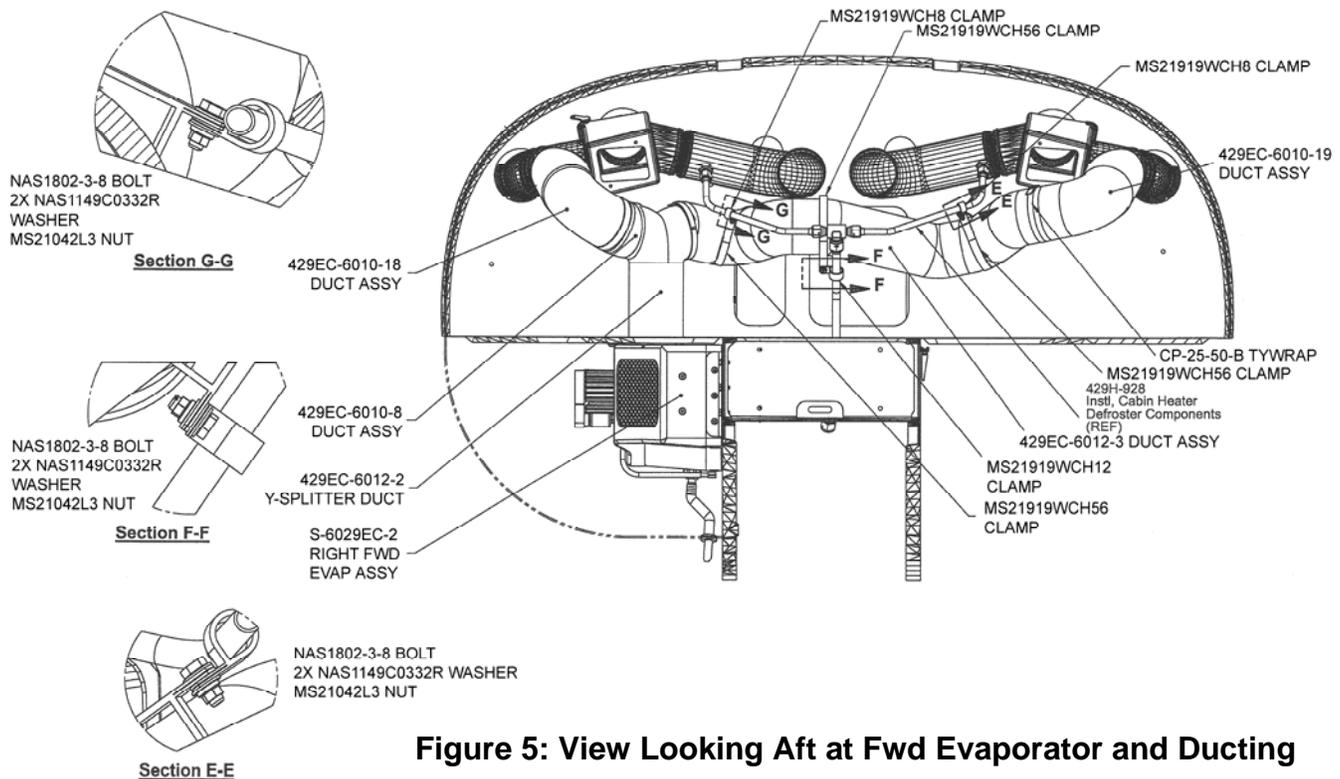

Figure 5: View Looking Aft at Fwd Evaporator and Ducting
1. Install 429EC-6012-2 Y-Splitter Duct to the S-6029EC-2 Evaporator and the existing 429EC-6010-8 RH Flexible Duct, see Figure 5.
2. Install 429EC-6012-3 Flexible Crossover Duct to the 429EC-6012-2 Y-Splitter Duct and the existing 429EC-6010-19 Elbow Assy, see Figure 5.
3. Secure 429EC-6012-3 Flexible Crossover Ducts with associated clamps and hardware as shown in Figure 5.